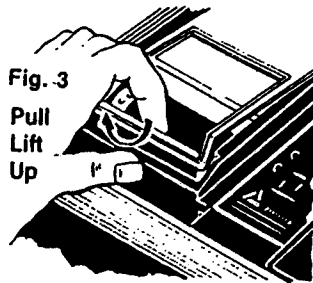

Fig. 4
2. Remove top cover. See fig. 4.
3. Unroll about nine (9) inches of chart paper.